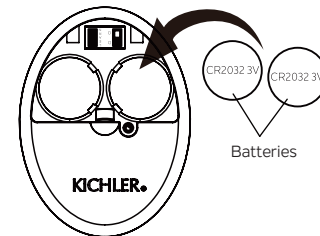

Fig. 27
Step 2. To make fan operational, install two 3V CR2032 batteries (included). The batteries should be installed with the positive (+) side up. Replace with CR2032 batteries when necessary. (Fig. 27)